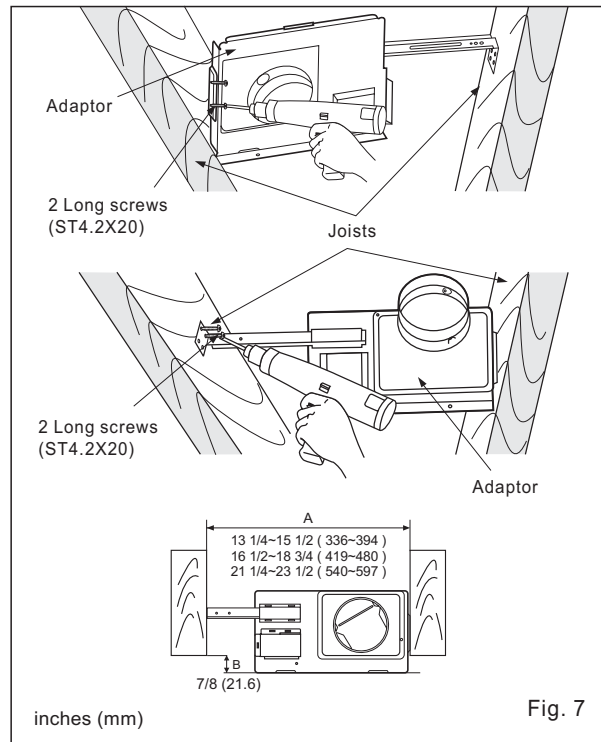

Fig. 7
9. Follow the Fig. 12-3, 12-4 (page 9) and Fig. 7 (page 8) of the original installation instruction to complete the motor/grille assembly installation.
2. Insert the suspension bracket into the adaptor and secure it to joists by using long screws (ST4.2X20) (Fig. 7)